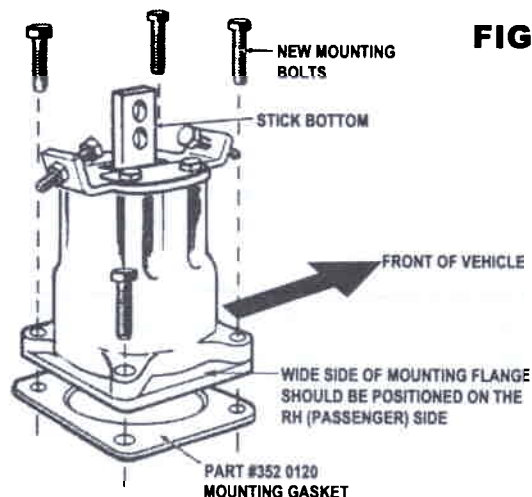
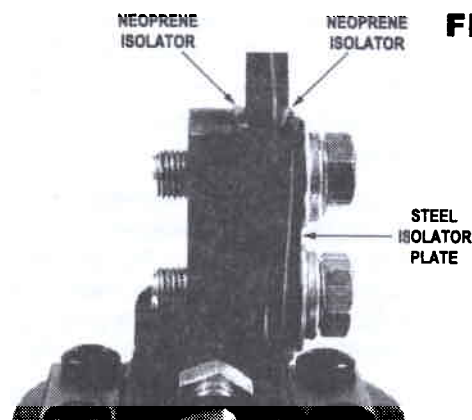

FIG. 1
FIG. 5
8. Install Hurst Competition Plus Shifter base assembly onto transmission making sure that machined ball on stick bottom fits properly into shift selector socket inside transmission. **Note: For mounting identification purposes, the shifter base assembly must be installed with the wide side of the housing mounting flange positioned to the RH (passenger) side.** (Refer to Fig. 1)
9. Install four (4) new 6 mm thread hex head mounting bolts (supplied) and using a 10 mm wrench or socket, tighten evenly to 10-12 lbs. ft. torque.
10. Place one neoprene isolator (supplied) between shifter stick bottom and chrome plated stick. Place other neoprene isolator against outer side of chrome plated stick. Place steel isolator plate (supplied) against neoprene. (Refer to Fig. 5) **Note: Re-install chrome plated stick to the same side of stick bottom that it was previously removed from. Fasten stick to stick bottom in shifter base assembly using bolts and**